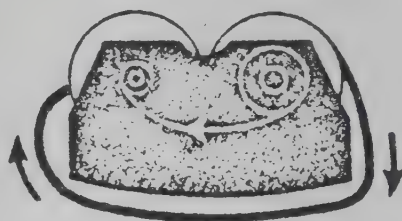

FIG. 7
- (1) Plastic spiral spool P.T.W - one
- (2) Film spooling device RSD - one
- (3) 2 litre developing tanks with lid and spinning rod 3 Nos. one each for developer, fixer and rinsing water
- (4) Thermometer
- (5) Dark Room Timer
- (6) Stainless steel vessel with ice (when temperature of the solution is higher than 20°C)
- (7) One long rubber tube suitable for fixing to water tap on one end and glass tube on the other (see Fig 7 page 17).
- (8) Two plastic buckets one containing water and other containing a very dilute solution of wetting agent (lidet, Teepol etc)
- (9) Towel to keep hands dry before handling the film.
- Step 3 — Pull out the end of the film from the spool and pass it over the cotton covering it with a similar piece of cotton. Let the free end of the film fall into the bucket containing wetting solution (Fig.7).